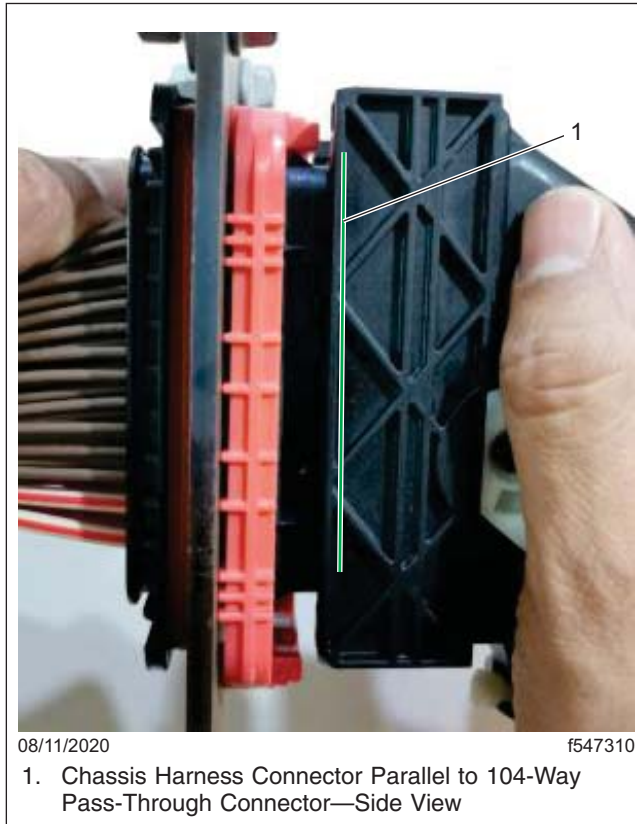
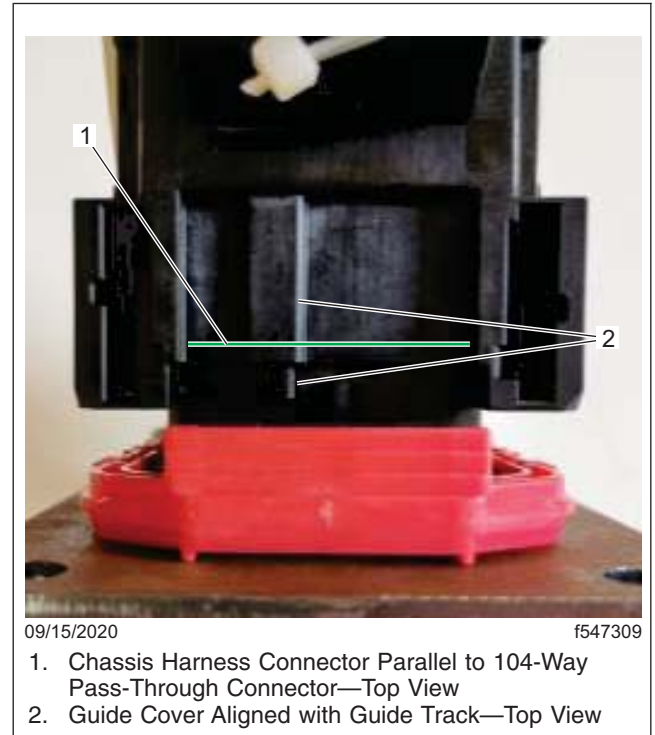

Fig. 10, Side View of Parallel Connectors
Fig. 11, Top View of Parallel Connectors
6. Ensure the chassis harness connector is parallel with the 104-way pass-through connector as shown in Fig. 10 and Fig. 11. This will align the top and bottom guide tracks on the 104-way pass-through connector with the guide covers on the chassis harness connector. See Fig. 11.